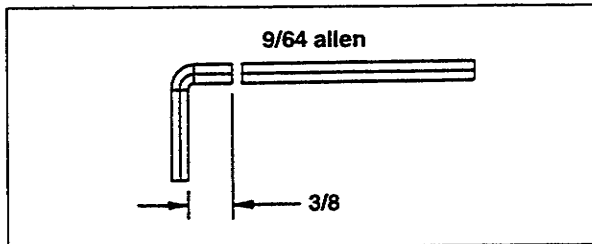

Fig.4
- Modify a standard 9/64" allen wrench (Fig.4).